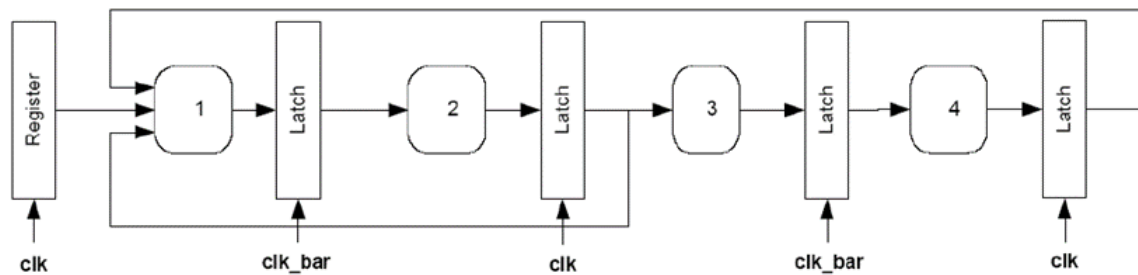

Fig. 8
5. Determine the minimum clock period at which the circuit in Figure 8 will operate correctly for each of the following logic delays. Assume there is zero clock skew and that the latch delays are accounted for in the propagation delay Δ 's. [12pts]